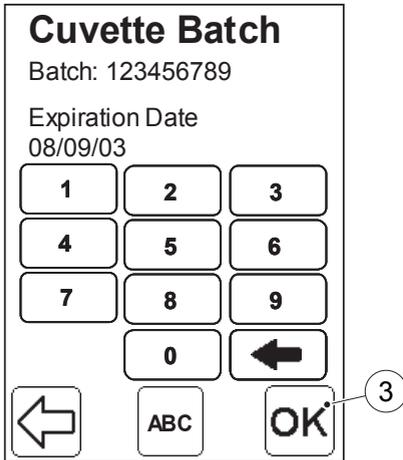

FIGURE 4-17
- c) If the Batch No. was entered via the Barcode Scanner from the barcode on the Cuvette vial, FIGURE 4-18 will be displayed, otherwise FIGURE 4-17 will be displayed.